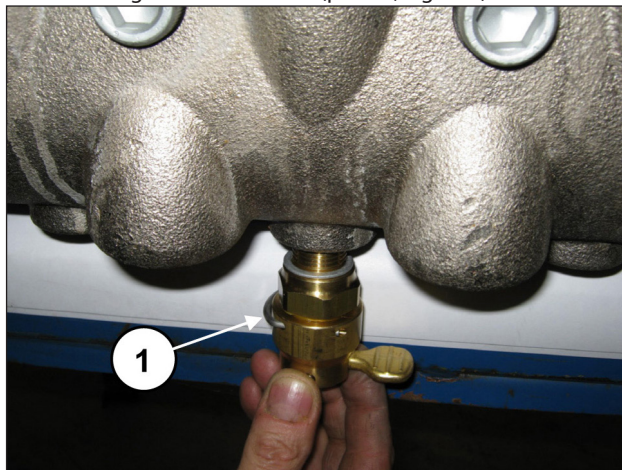
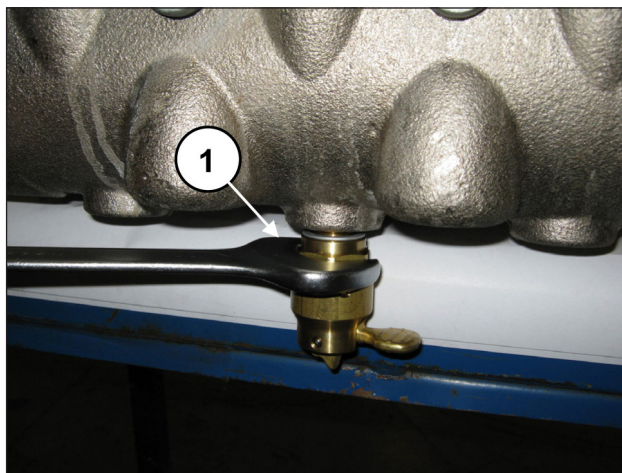

Fig. 137
Fig. 138
Apply the valve opening devices (pos. ①, Fig. 137) and screw them in using a 30 mm wrench (pos. ①, Fig. 138).